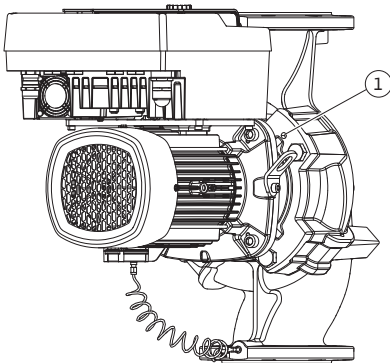
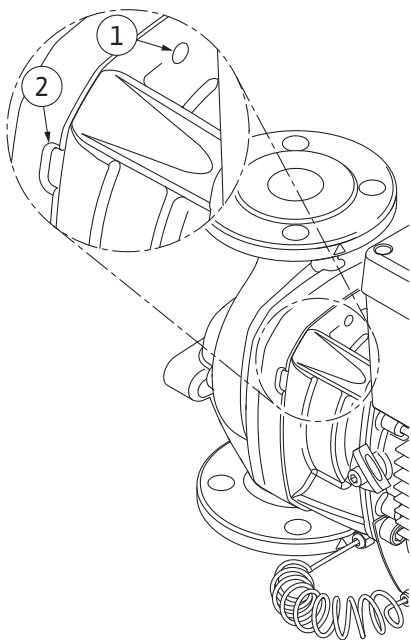

Fig. 108: Pressing off the motor impeller unit via threaded holes
Fig. 109: Threaded holes and slots for pulling the motor impeller unit off the pump housing
12. For pump type (Fig. III, IV), loosen the screws (Item 29). Use the two adjacent threaded holes (Fig. 108, Item 1) and use suitable screws provided on-site (e.g. M10 x 25 mm). Pull the motor impeller unit off the pump housing.
For pump type (Fig. I and Fig. II), use the two threaded holes M10 (see Fig. 108) and use suitable screws provided on-site (e.g. M10 x 20 mm). The slots (Fig. 109, Item 2) can also be used for pulling off.